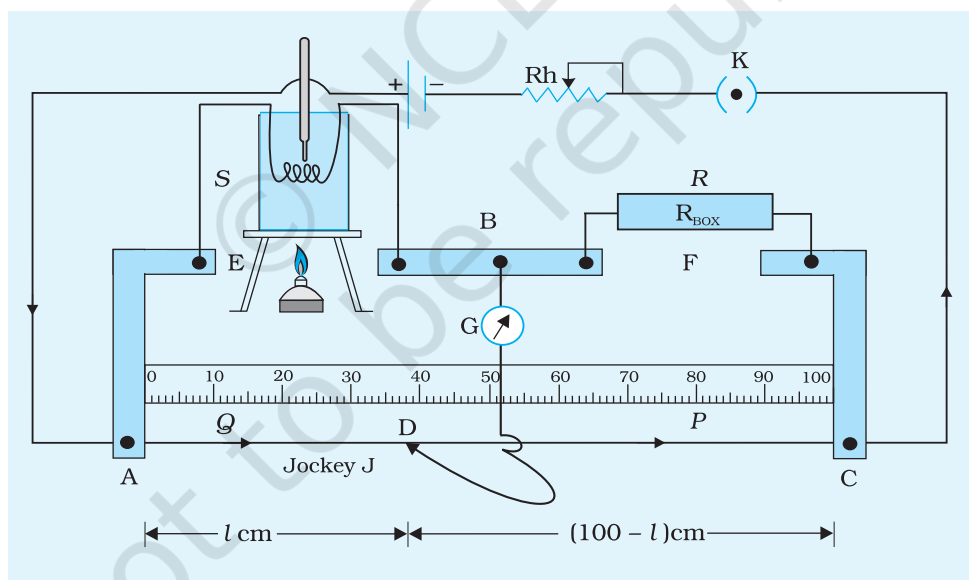

Fig. E 2.5
3. The resistance of a wire changes with temperature. You may study this by using a metre bridge. You may use a beaker with mustard oil, a suitable thermometer ($0-300^{\circ}\text{C}$) and resistance wire of known length. The experimental set-up shown in Fig. E 2.5 may be used.